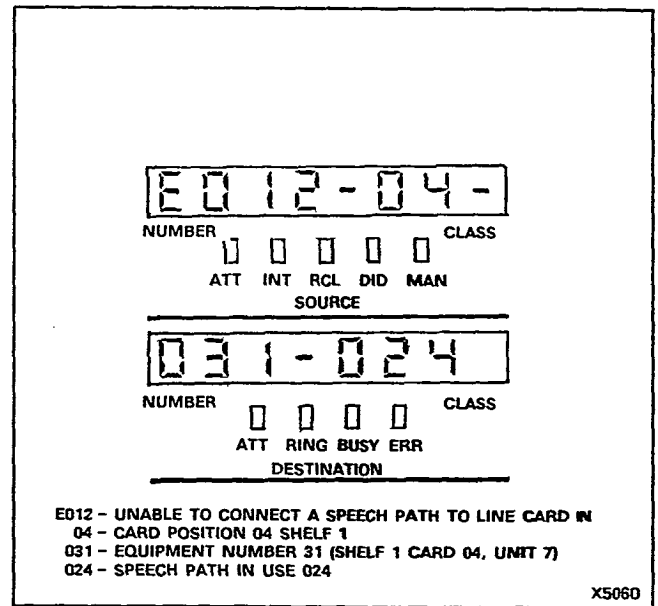

Figure 4-8 Typical Error Display
4.52 Error Codes. The error codes (Table 4-4) displayed on the console indicate the card causing the malfunction and the type of malfunction. Figure 4-8 shows a typical error display and its interpretation. Figure 4-9 shows the equipment numbers and card positions. The alarm may be cancelled and removed from the console by dialing *8# (assuming the use of * as the Supervisor function) and then pressing the RELEASE button. This will remove the alarm from the console but will not debusy the affected circuit. To display the remaining errors, the preceding errors must be canceled by the service person.